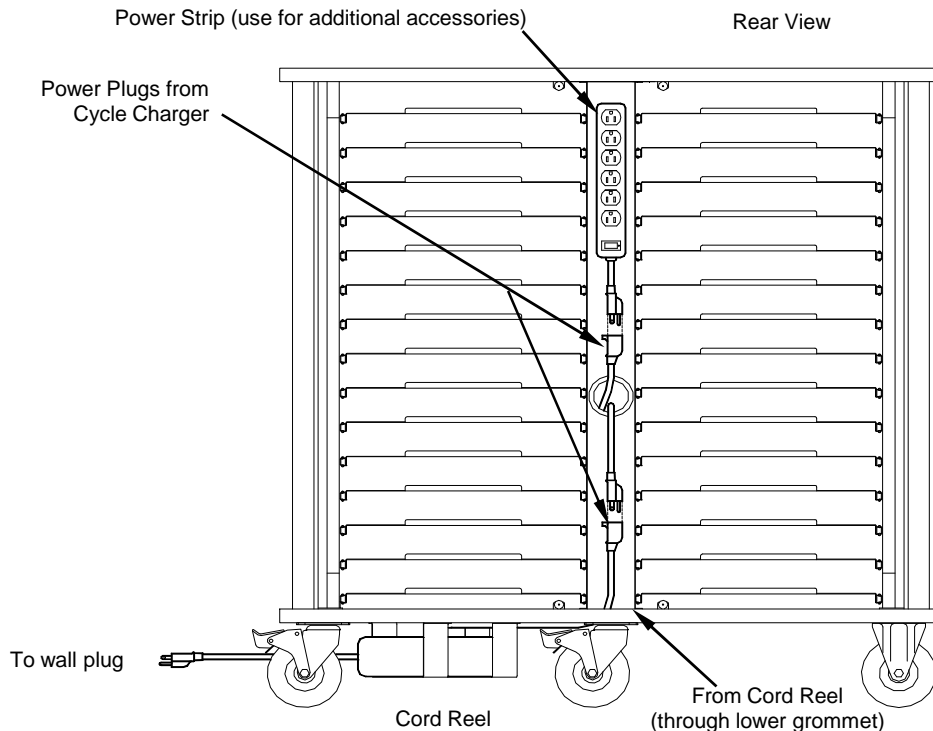

Figure 1
- Once the unit is unloaded from the skid, insert the cord reel plug through the lower grommet. **Figure 1.**